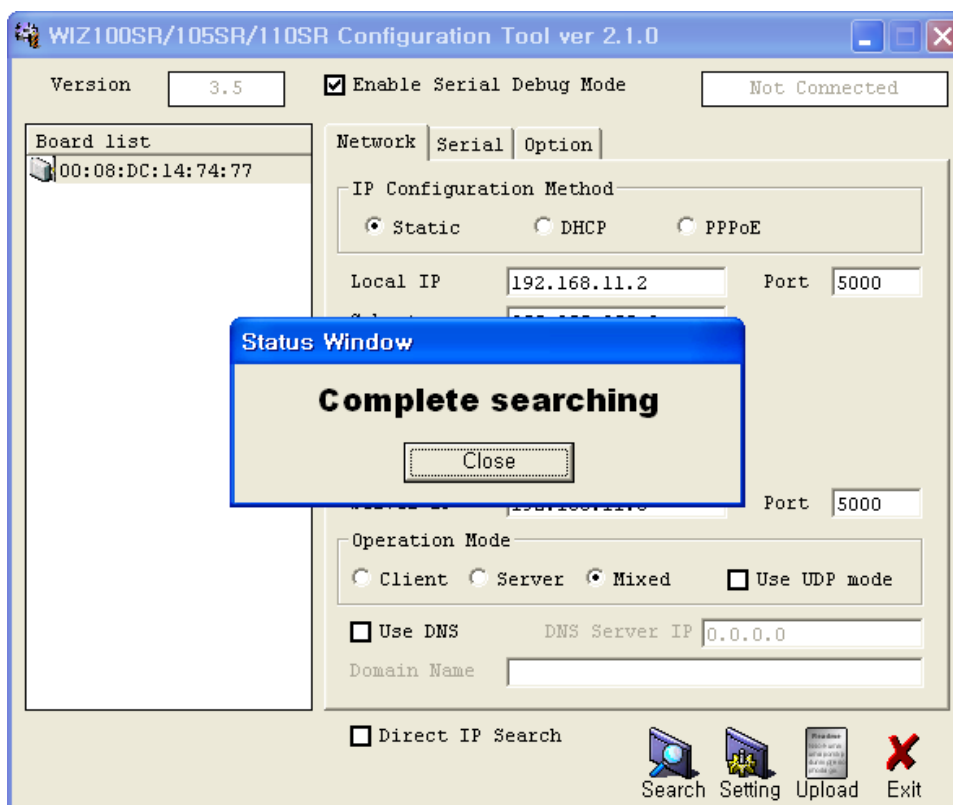

Figure 10. Board Search Window
3. As shown in Figure 10, select Option tab and check 'Enable' combo box of "Password" menu.
④Serial Configuration:
- ① Select a module shown in "Board list", and click "Upload" button.
- ⚠ Before uploading through Ethernet, you should set the network information of WIZ105SR first by Configuration Tool program as shown above Fig 10. By using Ping test, you can check if network is correctly configured.
- ② When the window as shown below Figure is displayed, select file for upload and click "Open" button.